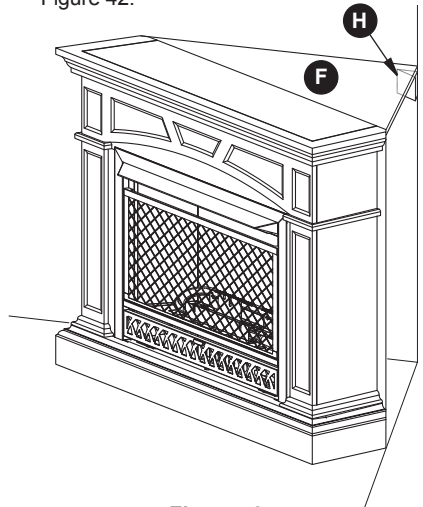

Figure 42
15. Push fireplace into the corner so that the Top Triangle Panel (F) is resting on top of the Set Square Support (H) as shown in Figure 42.